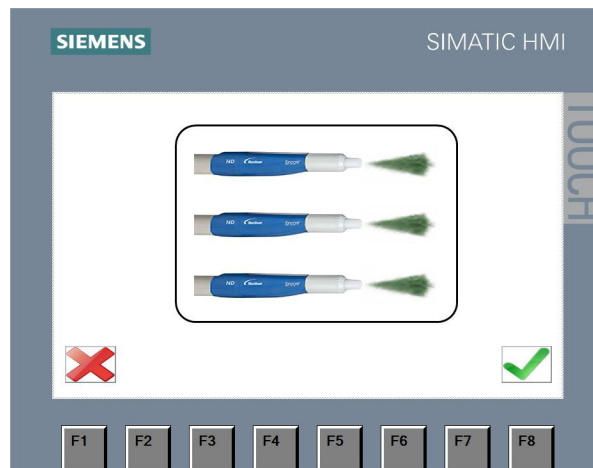

Figure 4-2 Cleaning Confirmation Screen
2. See Figure 4-2. Operator must select the **OK** button to continue cleaning the guns from inside.